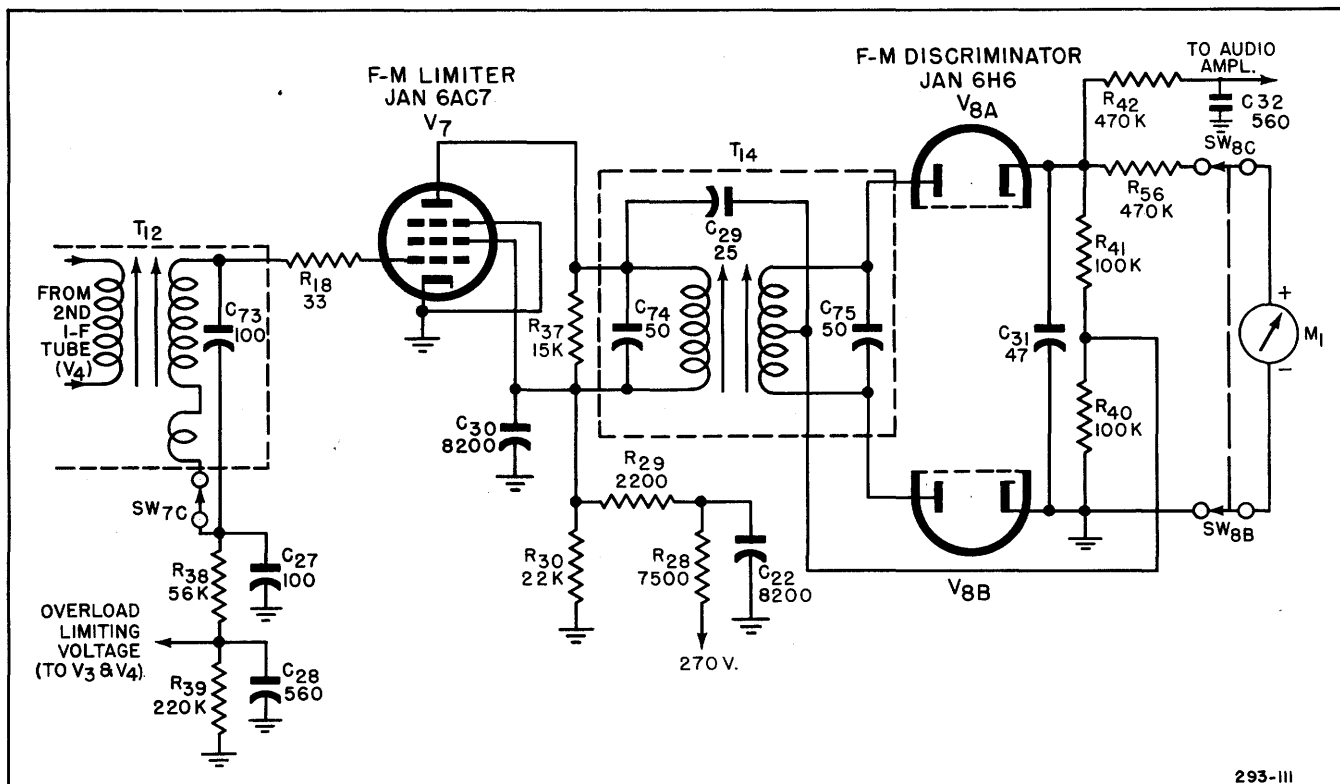

Figure 2-7: Types CHL-46130-C and CHL-46130-D Receiver, F-M Limiter and Discriminator Simplified Schematic Diagram.
(6) **F-M LIMITER AND DISCRIMINATOR.**—A simplified schematic diagram of the Limiter and Discriminator stages is shown in Figure 2-7.